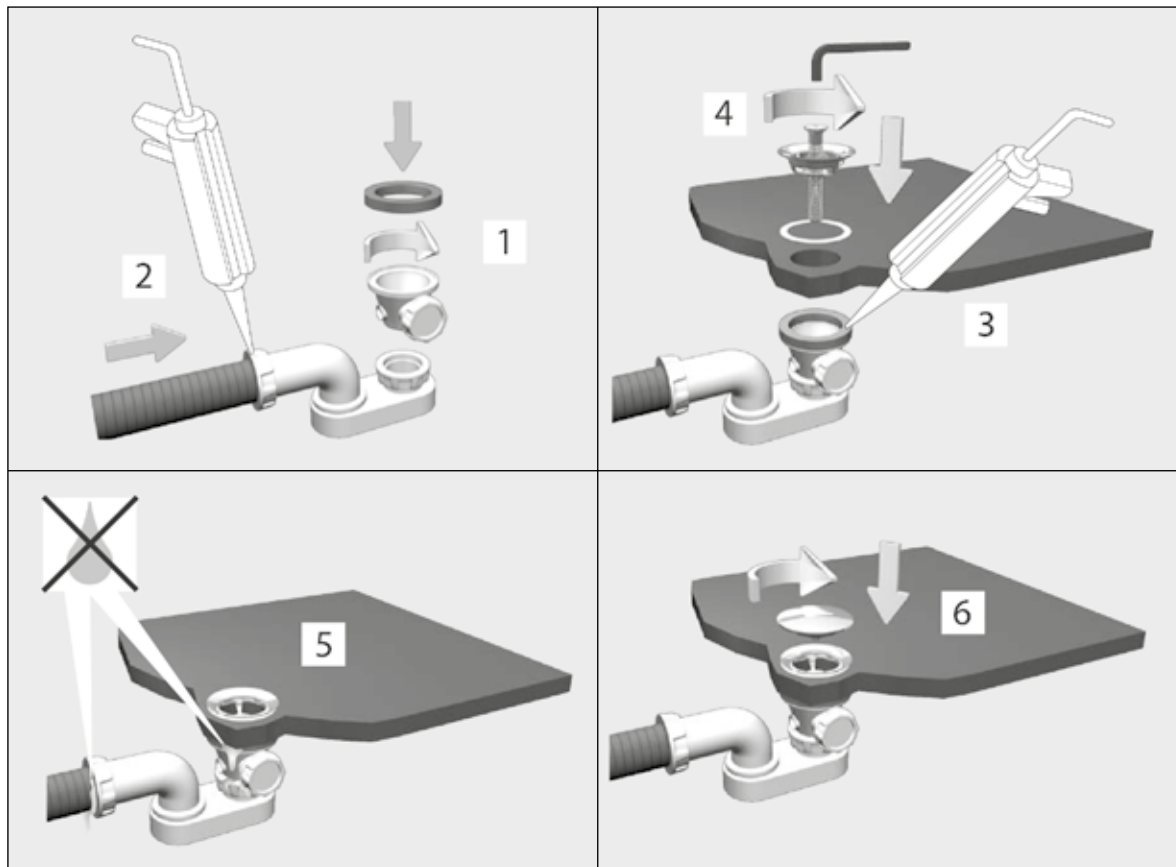

Fig.3
- Remove the tub from its pack and dispose of the latter according to local by-laws. Place the tub in its installation position and keep it clear from the floor using wooden blocks. Install the drain kit on the tub as shown in Fig. 3, following the instructions of the manufacturer of the drain kit.